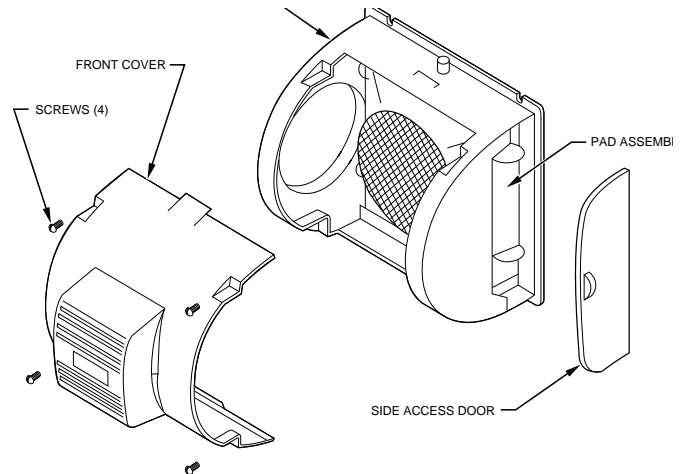

Fig. 9 — Model 49FP
- On a Model 49FP humidifier, open the side door or the front cover. If the front door is opened, hold the pad assembly in place. Check to see if water is flowing from the solenoid valve into the distributor pan. (See Fig. 9.)